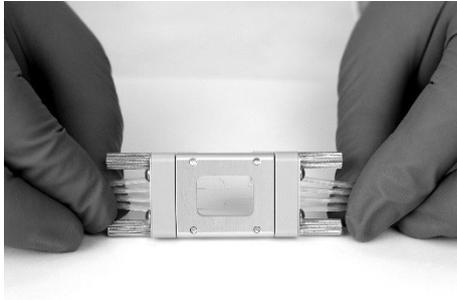
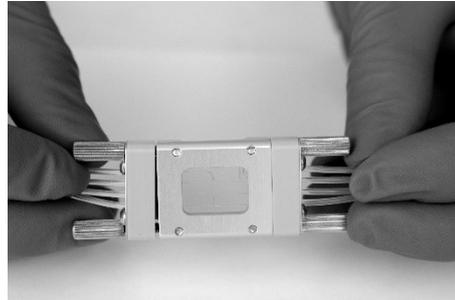

Figure 12
Figure 13
- The image in Figure 12 shows correctly fitted connectors and H-interface, Figure 13 shows incorrectly fitted connectors with a gap on the bottom left corner.